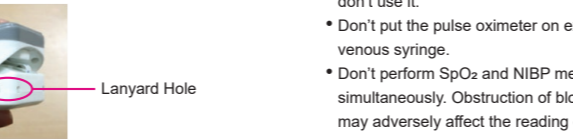

Figure 4
1. Thread the thinner end of the lanyard through the lanyard hole. The position of the lanyard hole is shown in (Figure 4). (Notice: the lanyard hole is on both sides.)